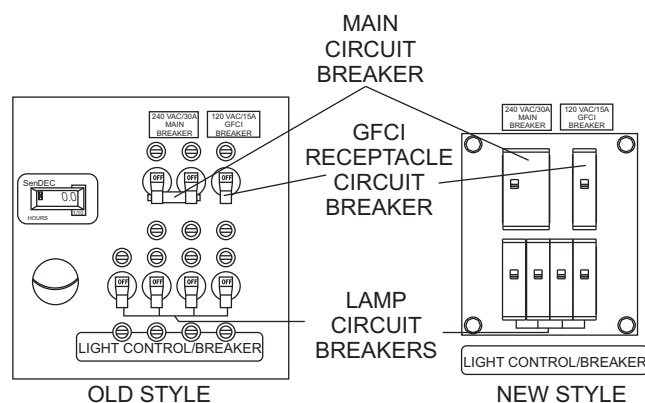

Figure 18. Control Panel Circuit Breakers
The main circuit breaker (25 amps) and 4 lamp circuit breakers (10 amps each) are located on the upper control panel (Figure 18). Each lamp has a 10-amp circuit breaker.
1. Place the main circuit breaker (Figure 18) on the control panel to the ON position.